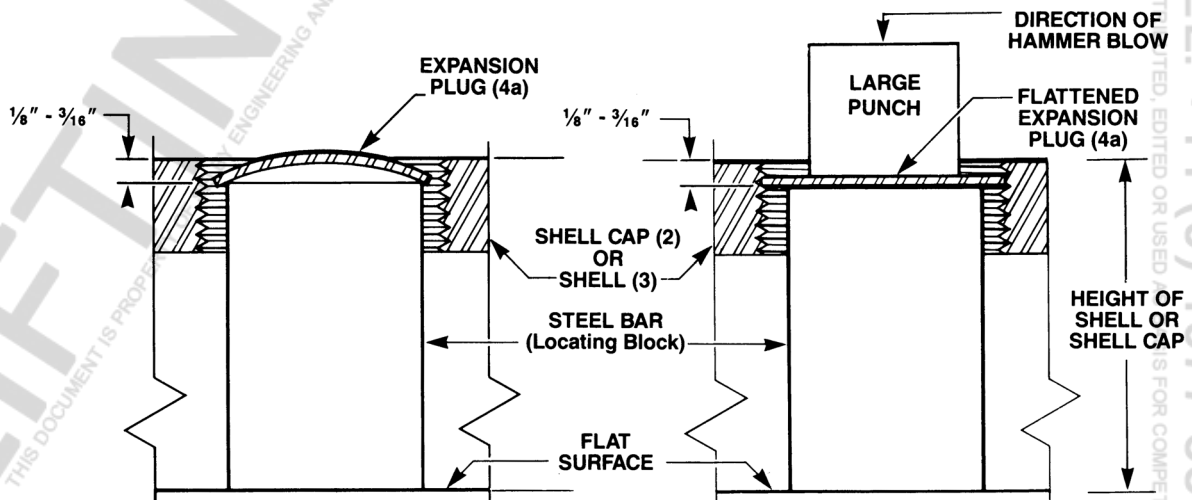

Figure 2-3. Expansion Plug Replacement
1. Refer to Figure 2-3 for replacement of expansion plug (4a) in shell (3) for upright units or shell cap (2) for inverted units.
- a. Set shell cap (2) [inverted models] or shell (3) [upright models] over a steel bar which is approximately 1/8" to 3/16" shorter in height than the shell or shell cap. The diameter of the bar should be close to the I.D. of the shell or shell cap.
2. For units with tapered roller load bearings, press bearing cones onto worm gear (6) with small end of cones away from gear face. Be sure that cones are seated properly against gear shoulder.
3. Assemble spacer (23) on ball screw (5).